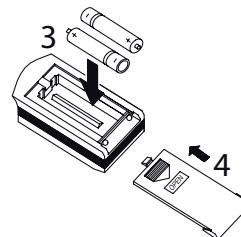

Fig. 2
3. Insert two new AAA 1.5V dry batteries, paying close attention to their polarity. (Fig. 2)
4. Reattach the back cover. (Fig. 2, procedure 4)